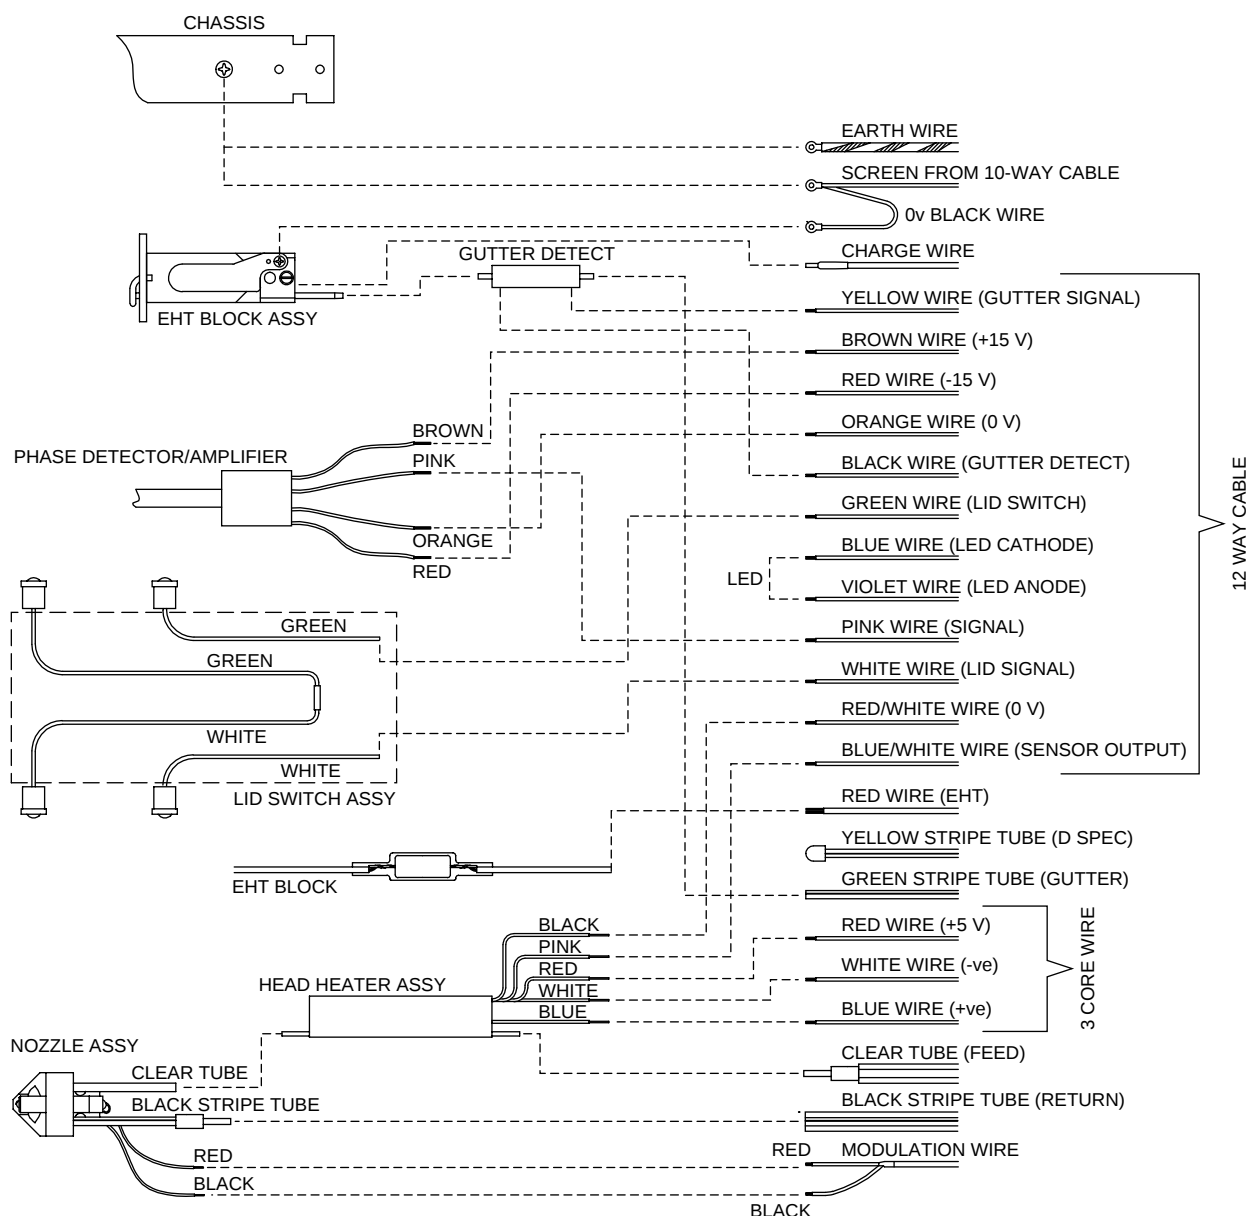

Fig 10.3 Printhead electrics and ink system circuit diagram
- 8.11 The gutter detect assembly (10) senses when ink is present in the gutter. Its ink feed tubes are metallic and a signal is fed to one of them. A signal return lead is connected to the other. When ink (which is conductive) is present, the signal passes through it to the return lead. This *gutter detect* signal is then fed, via the umbilical, to the I/O board in the electronics system.
- 9 A circuit diagram of the printhead electrical and ink systems is shown at Fig 10.3.